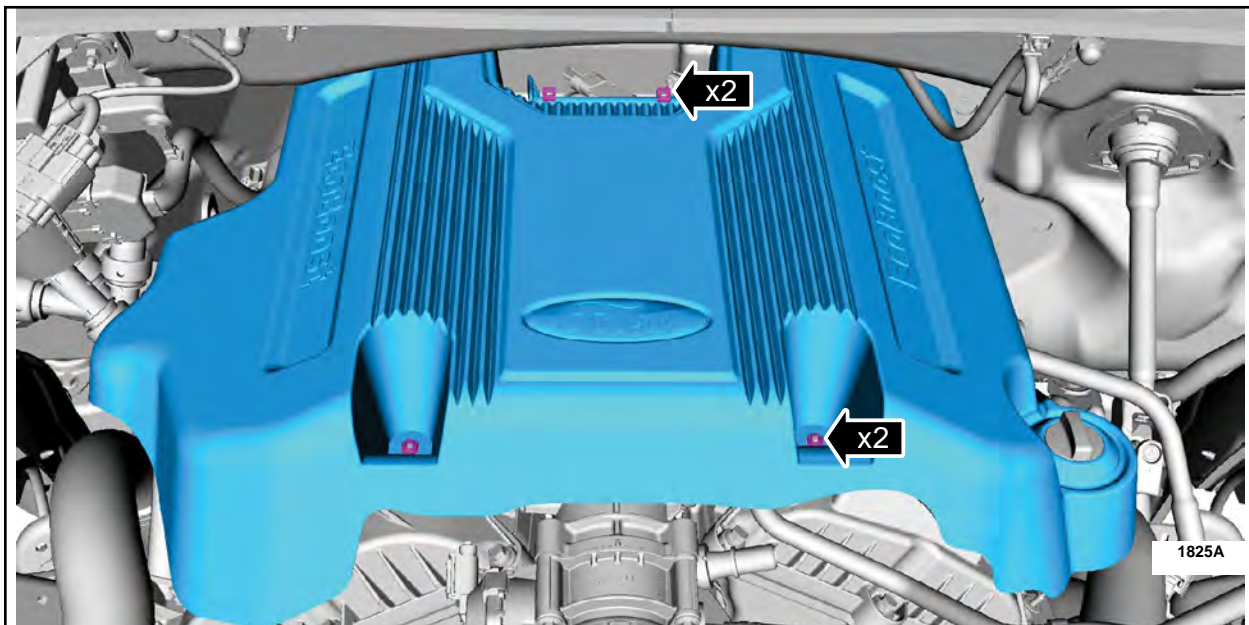

FIGURE 1
11. Remove the engine cover. See Figure 1.